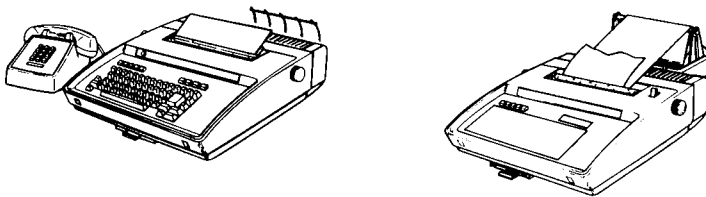

Fig. 1—43 KSR and RO Stations
1.01 This section provides station installation and removal information for the 43 KSR and RO Station (Fig. 1.).